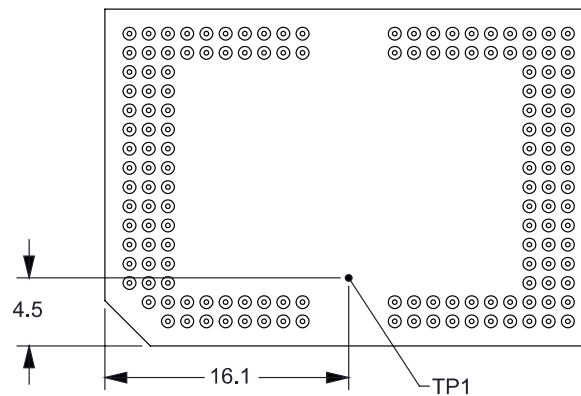

Figure 7-4. DMD Thermal Test Points
Relationship between array temperature and the reference ceramic temperature (thermocouple location TP1 in Figure 7-4) is provided by the following equations:
- $T_{CERAMIC}$ = measured ceramic temperature, TP1 location in Figure 7-4 (°C)
- Q_{ARRAY} = total power, electrical plus absorbed, on the DMD array (W)
- $Q_{ELECTRICAL}$ = nominal electrical power dissipation by the DMD (W)